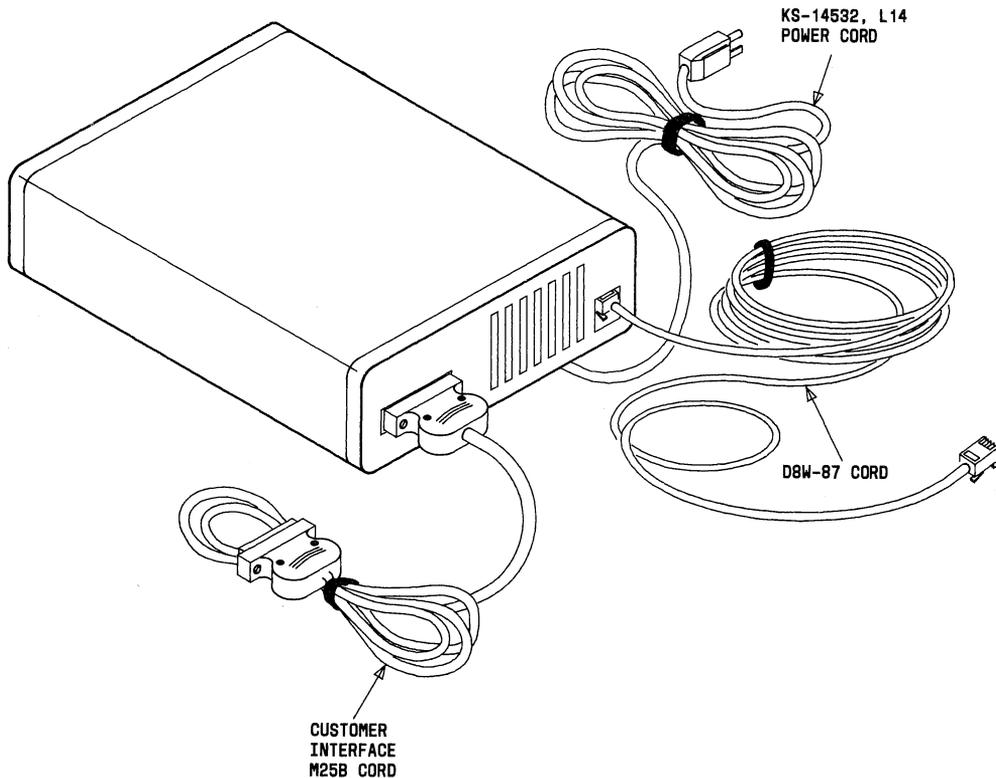

Fig. 13—70A Stand-Alone Mounting With Customer Interface Cord and D8W-87 Cord
5.03 The components required for installation of the PDM in a stand-alone mounting are a PDM circuit pack, a 70A stand-alone mounting, an M25B cord, and a D8W-87 cord (Fig. 13).
- (e) Connect the customer interface M25B cord to the customer interface connector (Fig. 13) on the PDM circuit pack.
- (f) Connect the D8W-87 cord to the DCP modular jack connector (Fig. 13) on the PDM circuit pack.
- (i) Connect the power cord of PDM (Fig. 13) to a 117 Vac outlet not controlled by a switch.
- (1) Select the proper options using the option switches on the PDM to make it compatible with the data entry terminal and the remote module.
- (2) When performing the LOCAL LOOP test, REMOTE LOOP test or REMOTE LOOP/SELF TEST, follow the procedures explained in Part 3, Test Mode.